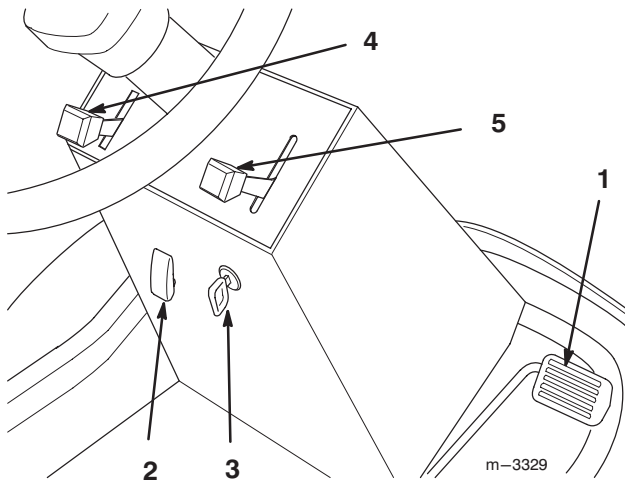

Figure 14
2. Release pressure on the traction pedal to stop movement (Fig. 14).
3. To engage lift cover and move the PTO switch to the “ON” position (Fig. 14).
1. Closing the cover moves the PTO switch to the “OFF” position (Fig. 14).